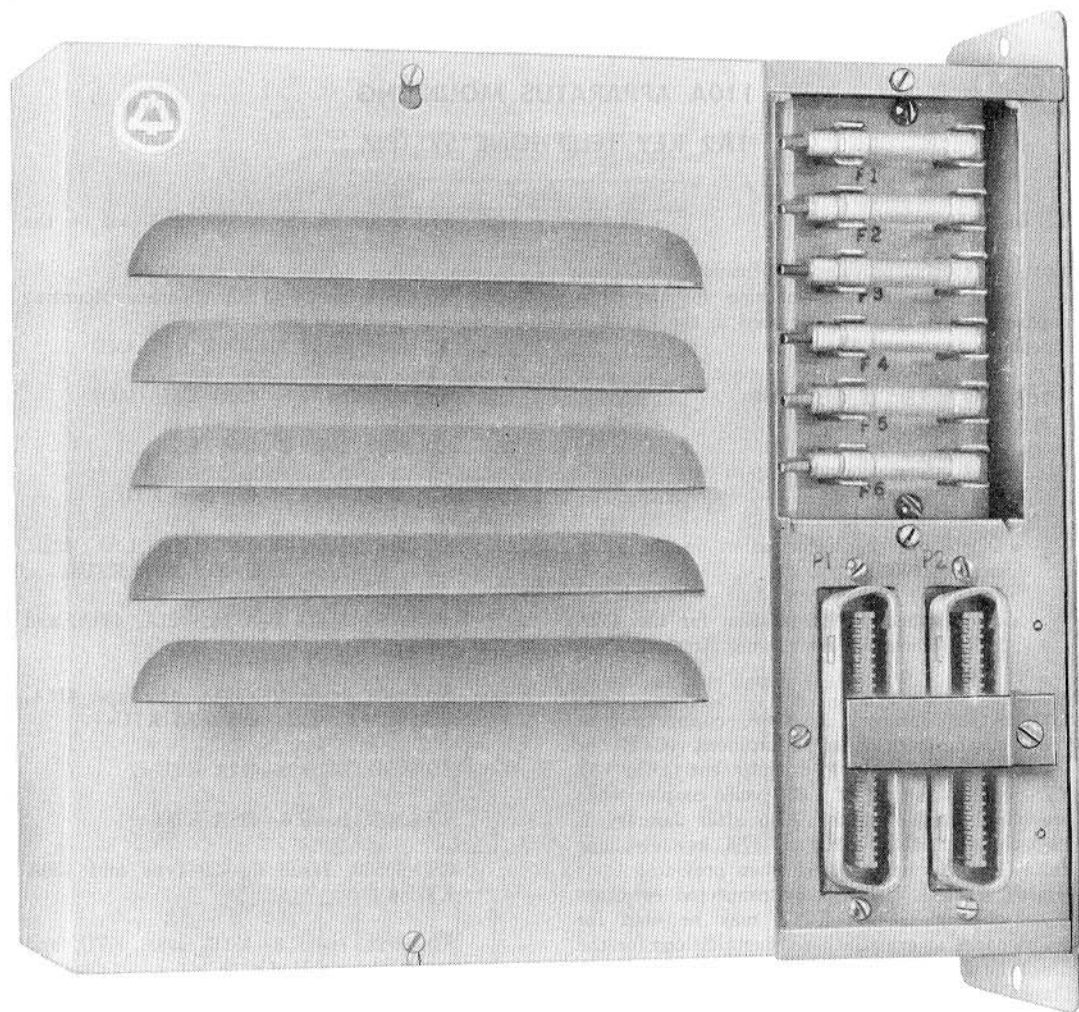

Fig. 1—110A Apparatus Mounting (With Cover)
**1.01** This section provides identification, installation, and connection information for the 110A apparatus mounting (Fig. 1) used in the 1A2 Key Telephone System (KTS).
- Mounting, Apparatus, 110A (Fig. 1).
- (e) Recessed fuse panel reveals 70-type fuses through a clear plastic cover. To replace fuse, remove cover by loosening two securing screws (Fig. 1 and Table B).